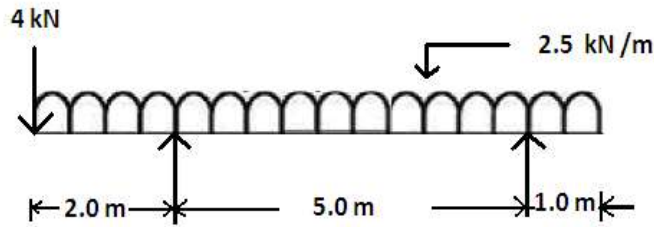

Fig.1
- Q.4** (a) Draw S.F and B.M for figure 1. **07**